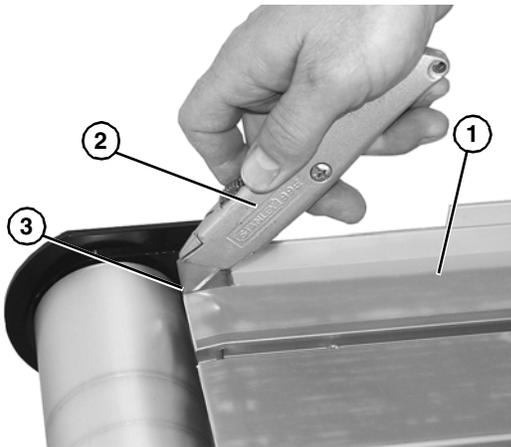

Figure 47
5. Install new wear strip (Figure 47, item 1).
6. Using a utility knife (Figure 47, item 2), cut out notch in each corner (Figure 47, item 3).